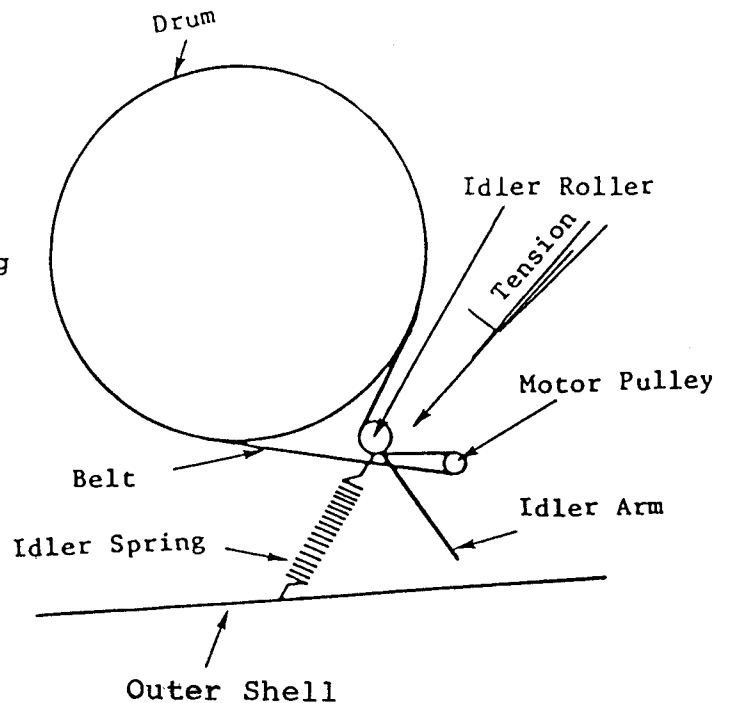

FIG. 7
opening. (Fig. 7 shows belt position after installation).
(See Fig. 7). This is
2. Idler Assembly - (Refer to Fig. 7)